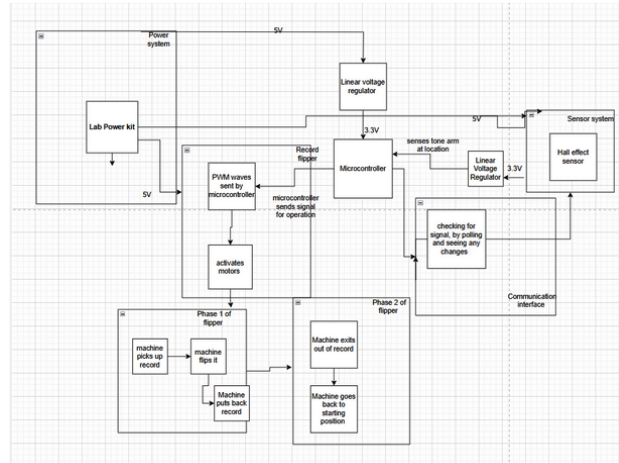

Figure 1: Enter Caption
- **Figure 1:** Block Diagram – system overview